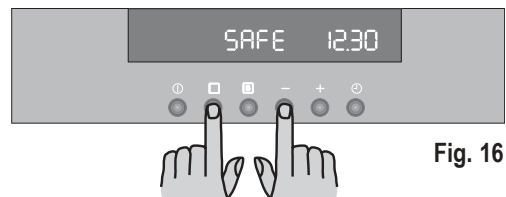

Fig. 16
- 2) Press buttons  and  at the same time and keep them pressed for about 3 seconds. An acoustic signal will be emitted and the indication 'SAFE' will appear on the display (Fig. 16).